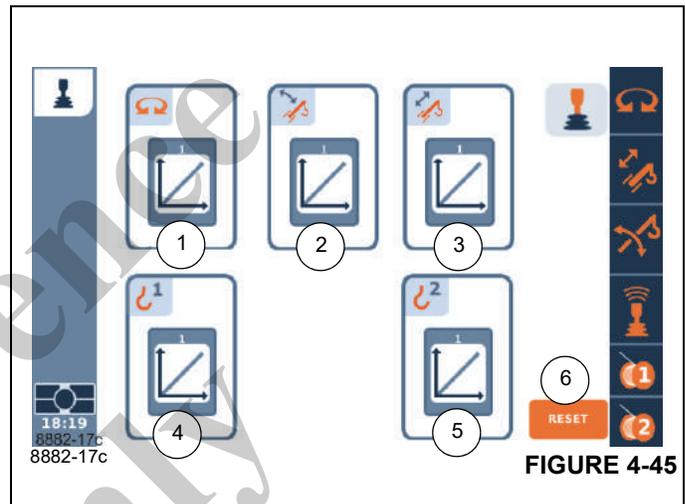

FIGURE 4-45
The Controller Sensitivity Function Screen (Figure 4-45) allows the operator to adjust the sensitivity of the controllers and foot pedal (optional).
**NOTE:** When a Reset Function is enabled (6), (Figure 4-45), everything is then placed at 100%.
The Controller Speed Function Screen (Figure 4-45) allows the operator to adjust the crane function speeds relative to the positions of the controllers and the foot pedal (optional). Adjustment is made as a percentage of full rated speed.